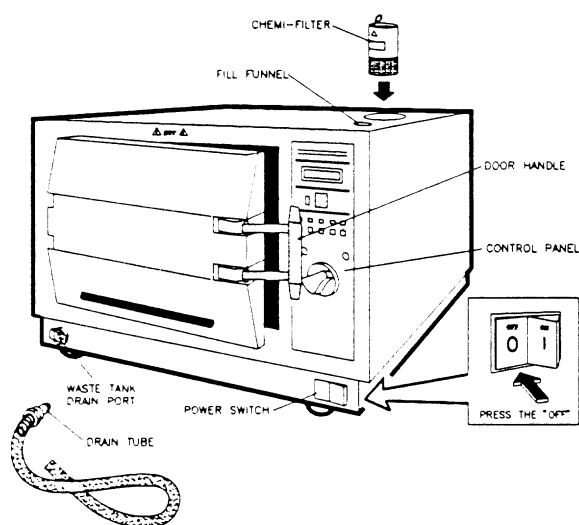

Figure 28: Installing the Chemi-Filter
3. Grasp the pull strap at the top of the new Chemi-Filter. Insert the filter into the filter opening. Push the filter down as far as possible (see Figure 28).